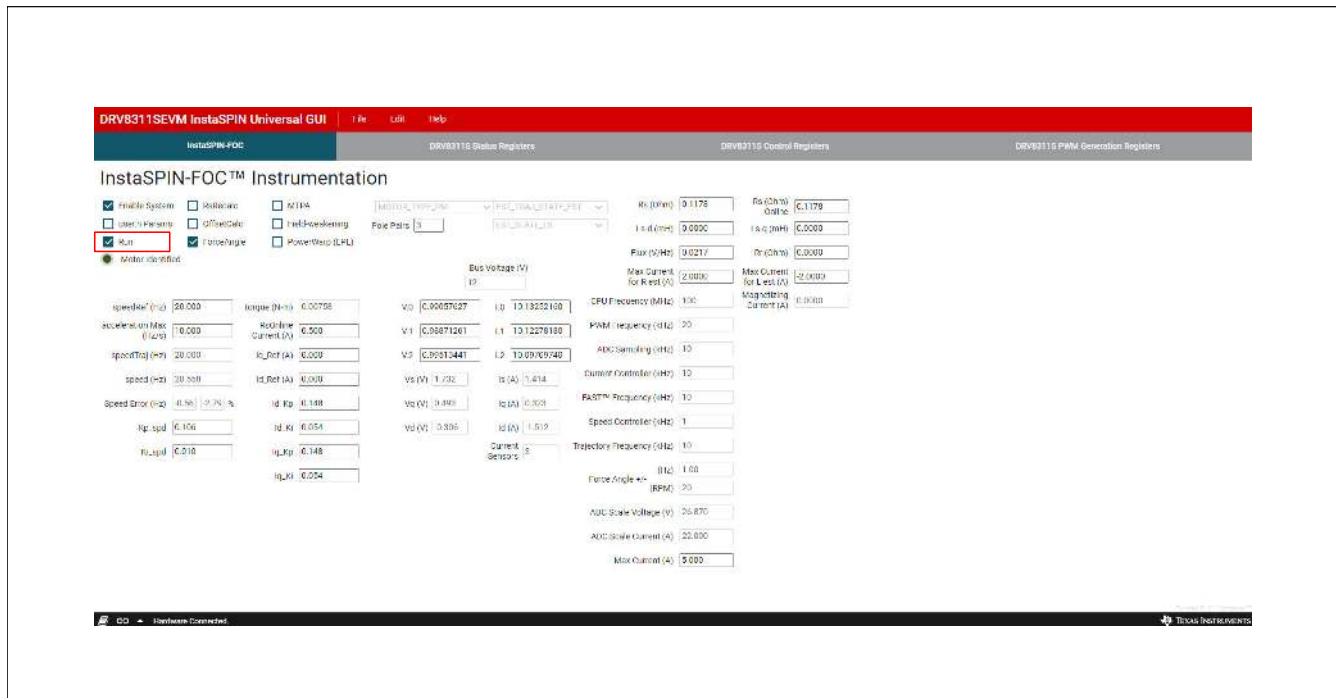

Figure 6-3. C2000 InstaSPIN Universal GUI Running motor identification
2. Check the “Run” box to begin the motor identification algorithm as shown in Figure 6-3. The motor will begin to spin and stop as it goes through many states to calculate and identify useful motor parameters for sensorless Field-oriented control. This should take no more than a couple of minutes.